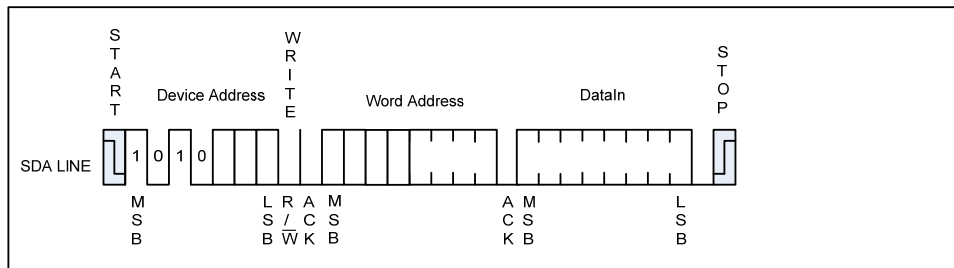

Figure5 Byte Write
**BYTE WRITE:** A write operation requires one 8-bit data word address following the device address word and acknowledgment. Upon receipt of this address, the BM24C02E will again respond with a “0” and then clock in the first 8-bit data word. Following receipt of the 8-bit data word, the BM24C02E will output a “0” and the addressing device, such as a microcontroller, must terminate the write sequence with a stop condition. At this time the EEPROM enters an internally timed write cycle, to the nonvolatile memory. All inputs are disabled during this write cycle and the EEPROM will not respond until the write is complete (see Figure 5).